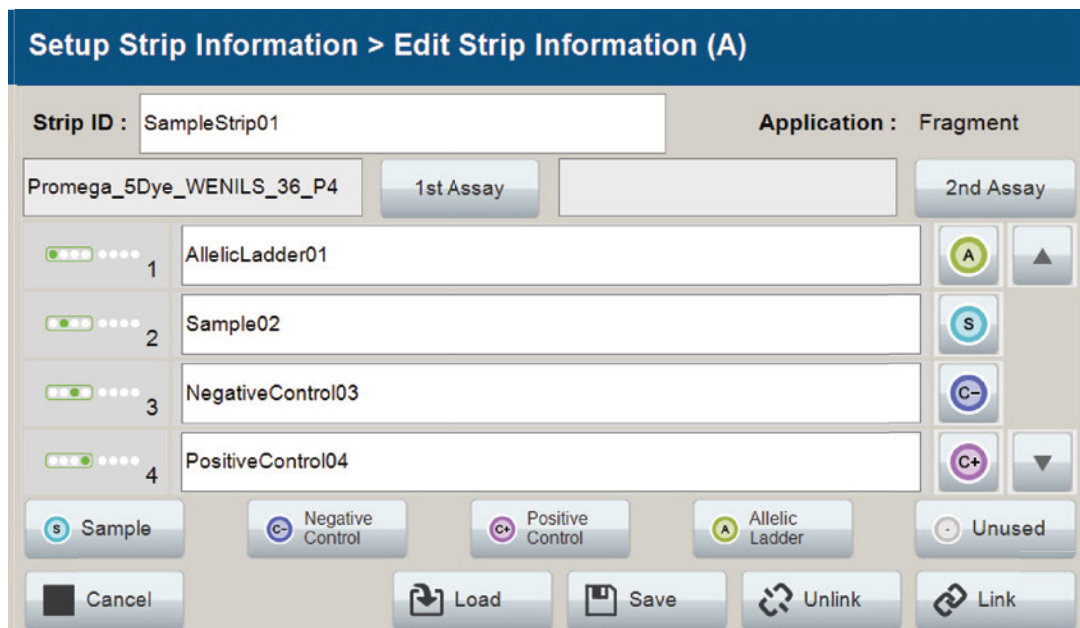

Figure 17. Completed 'Edit Strip Information' screen.
11. When all information is entered and verified for the strip, select **Link** on the lower right corner of the 'Edit Strip Information' screen (Figure 17). This will link the strip to the run. If you want to save the strip information to use in future runs, save the information by selecting **Save** at the bottom of the 'Edit Strip Information' screen (Figure 17). This will save the strip information so that it can be loaded later into another run, as well as link the strip to the run. Refer to the *Spectrum Compact CE System Operating Manual #TMD058* for use of saved strip information.